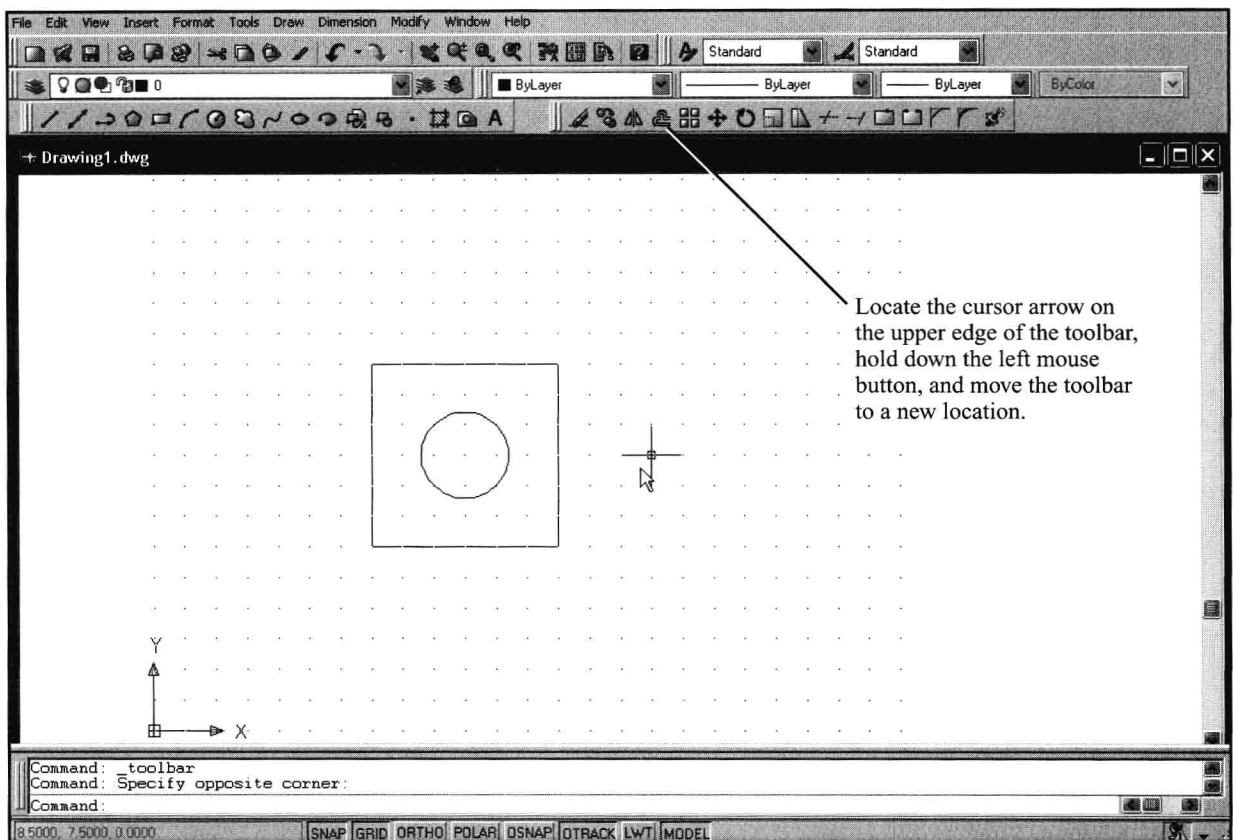
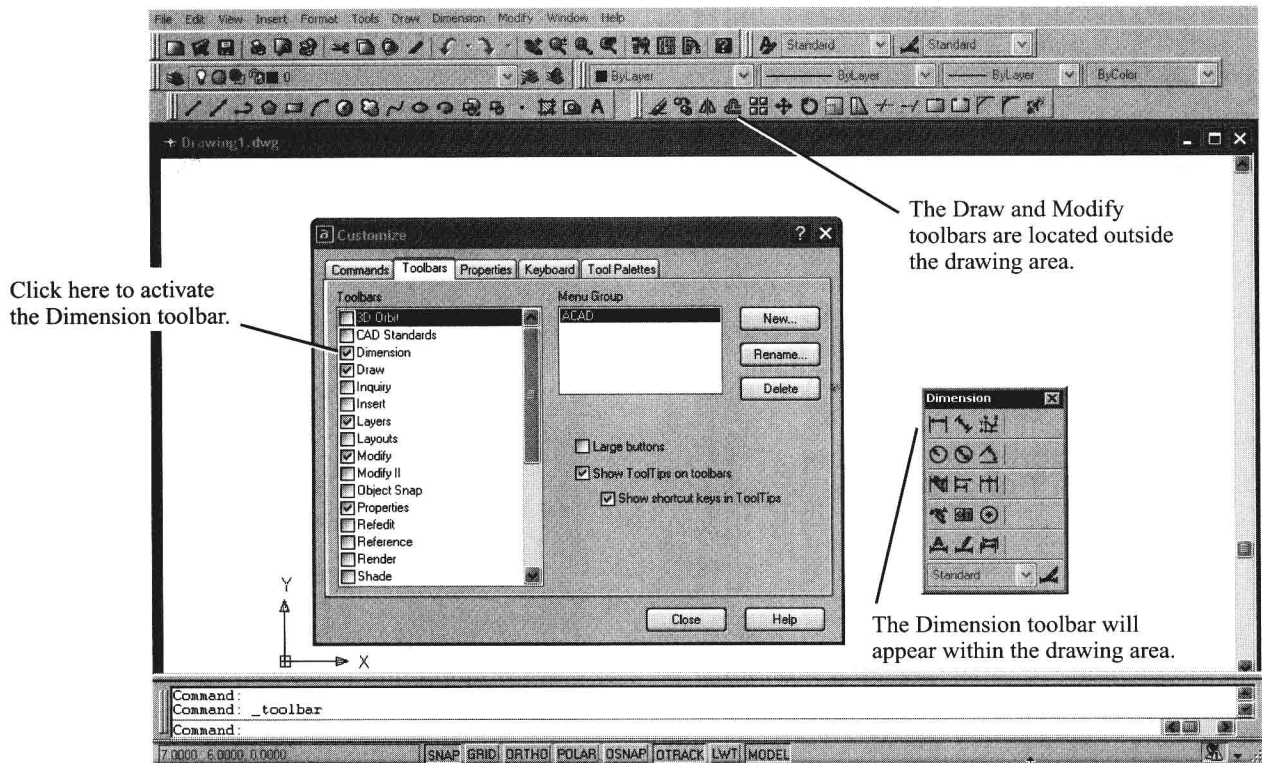

Figure 1-2
Figure 1-5
The large open area in the center of the screen is called the *drawing screen*, or *drawing editor*. The two rectangular boxes of command icons located along the left edge of the drawing screen are the Draw and Modify toolbars. They can be moved around the screen as shown in Figure 1-2.
See Figure 1-2
2. Move the reshaped toolbar to its original location along the left side of the drawing screen using the procedure outlined in Figure 1-2.
The Dimension toolbar will appear. See Figure 1-5. Any toolbar can be moved or have its shape changed as described in Figures 1-2 and 1-3.
Figure 1-5 shows the Draw and Modify toolbars docked horizontally at the top of the drawing screen. The Dimension toolbar will initially appear within the drawing area of the screen, as will any other toolbar activated. Toolbars can then be moved to different locations as explained. If the toolbar is located close to either the top or sides of the drawing screen, it will blend into the area surrounding the drawing area and will no longer be within the drawing area.